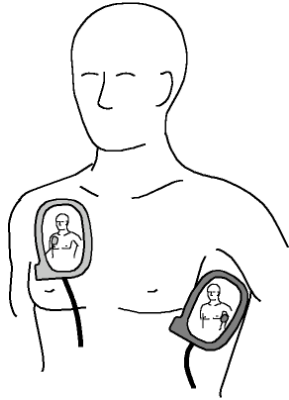

Figure 8 Placing Training Electrodes on the Manikin
**Note:** Ensure that the trainee does not touch the adhesive on the QUIK-PAK training electrodes or allow a training electrode to fold over on itself. Also ensure that the training electrodes are correctly oriented on the manikin as shown on the electrode packet (see Figure 8).